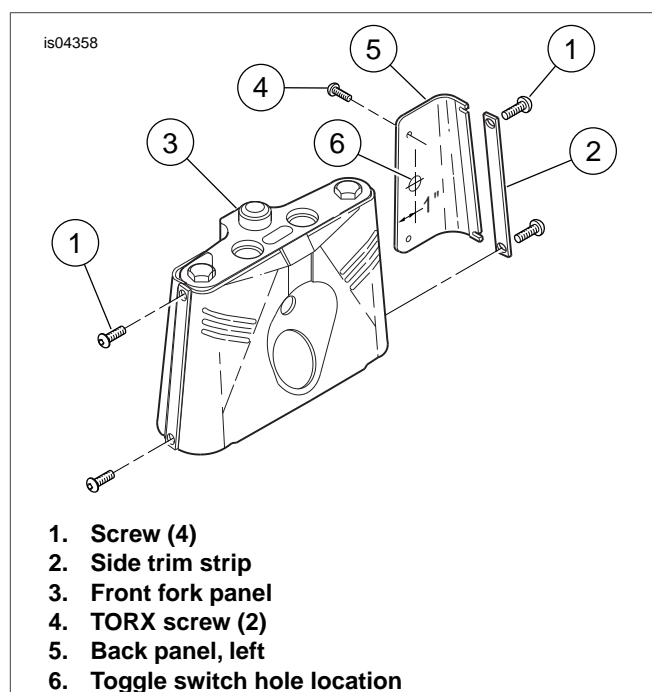
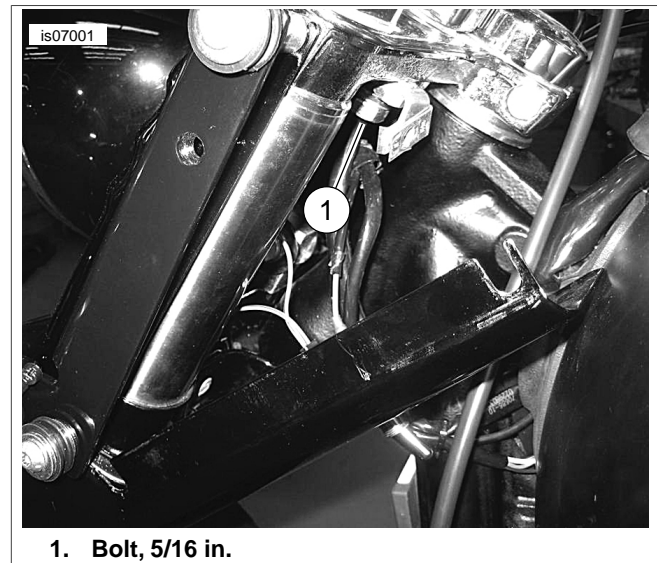
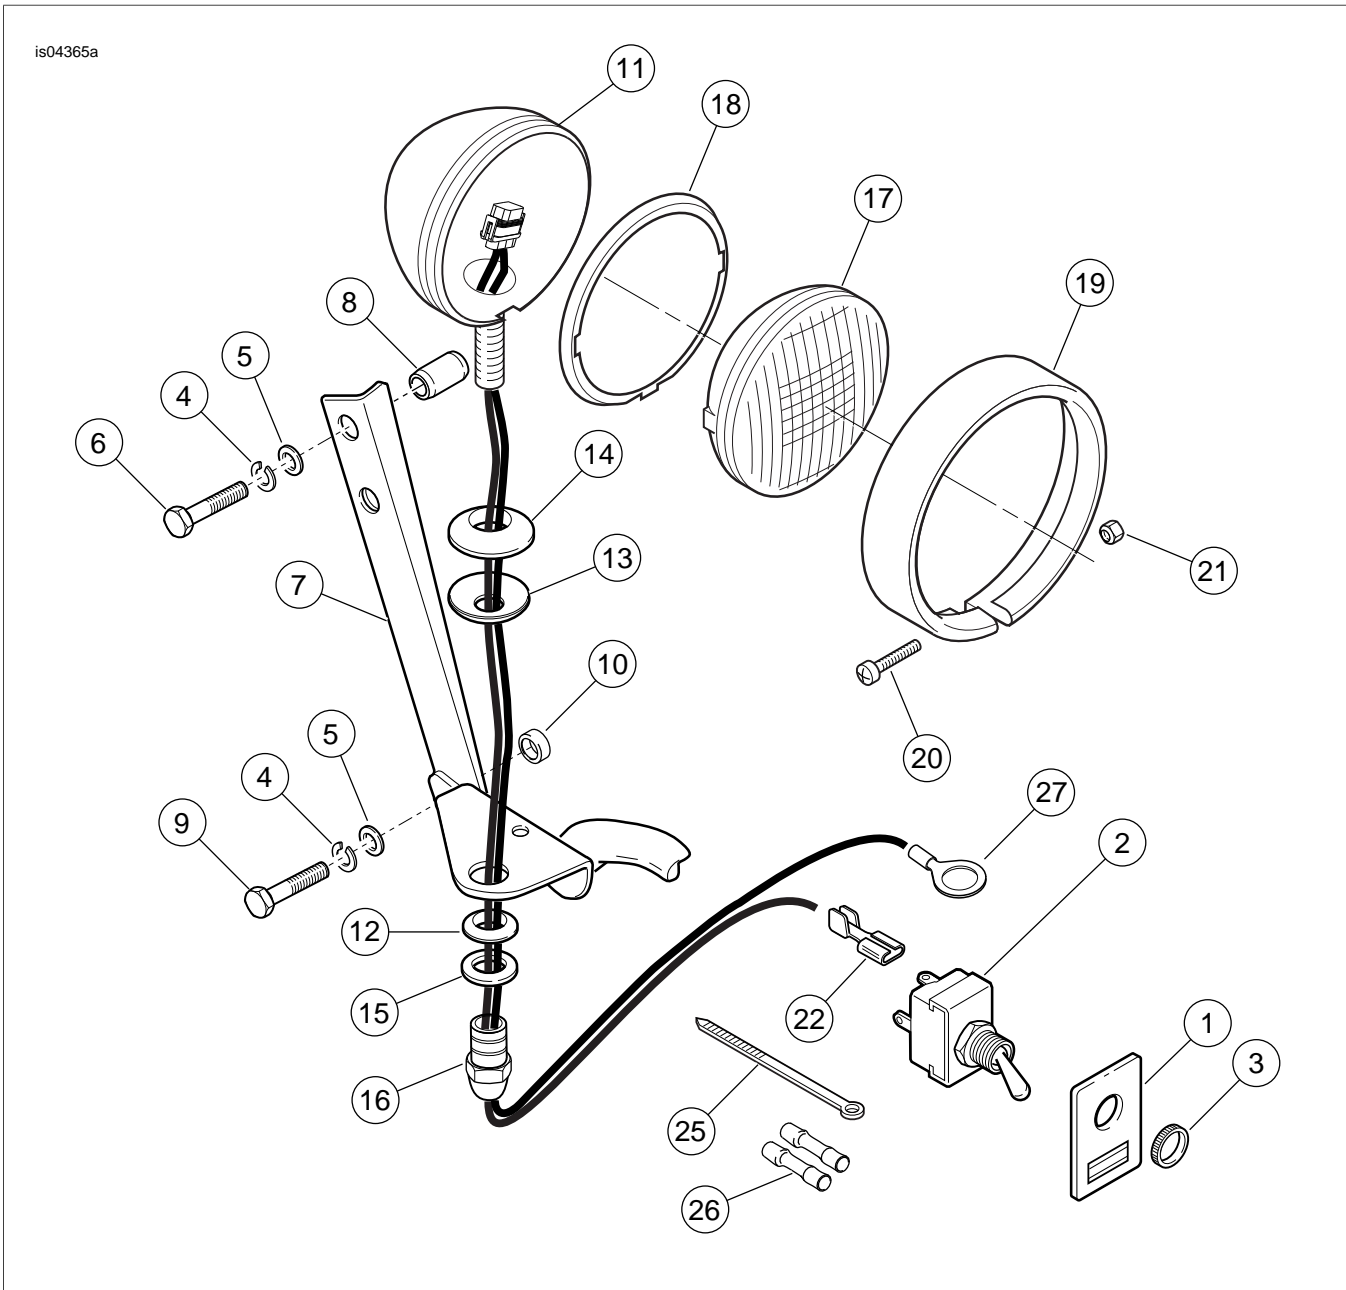

Figure 1. Toggle Switch Hole
Figure 4. 5/16 Inch Bolt for Ring Terminal Grounding
Figure 6. Service Parts: Auxiliary Light Kit
See Figure 6 and Table 1.
1. See Figure 1. Remove and discard two screws (1) and side trim strips (2) from each side of the fork trim panel (3).
2. Unfasten TORX® screws (4) and remove back panel (5) from front fork trim panel. Remove hole plug and discard.
3. See Figure 6. Attach adhesive label (1) around drilled hole (Figure 1, Item 6). Mount toggle switch (2) in hole using knurled nut (3). Set back panel aside for later wiring.
4. Place lockwasher (4) and washer (5) on two bolts (6). Insert bolts through upper holes in bracket (7) and through spacer (8). Thread into upper holes of fork bracket and through trim panel finger tight.
5. Place lockwasher (4) and washer (5) on two bolts (9). Insert bolts through lower holes in bracket (7) and through spacer (10). Thread into bottom holes of fork bracket and through trim panel finger tight.
7. Attach auxiliary lamp housing (11) to bracket using hardware (12-16) in the sequence shown in Figure 6.
5. See Figure 6. Remove tethered power lead from headlamp wires and attach connector (3) to remaining terminal on toggle switch (2).
6. Crimp both black wires into one end of butt splice. Use a small section of wire cable (23), crimp into opposite end of butt splice. Crimp final end into ring terminal (27).
7. See Figure 4. Use the 5/16 inch bolt that attaches upper bracket support for switch panel and grounds the ring terminal.
8. See Figure 1. Attach left side panel (5) to front fork panel (3) under left side of auxiliary lamp bracket.
9. Route wires so they are not pinched between the trim panel and fork bracket. Use cable straps (25) to secure wires to fork bracket and motorcycle frame.
6. See Figure 6. Install auxiliary lamps (17) and trim rings (19).